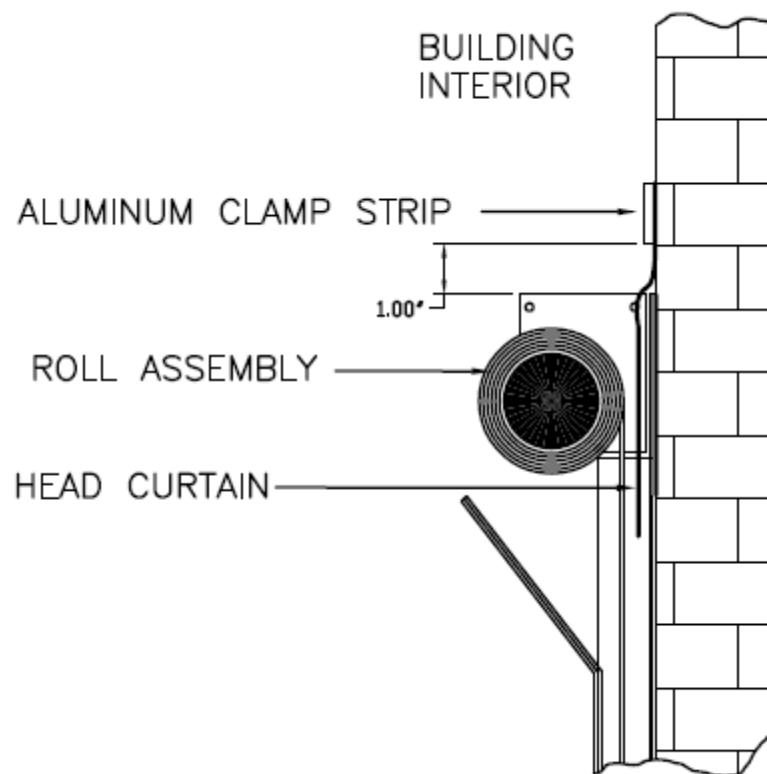

FIGURE 6
20. Mount the header curtain to the wall with the aluminum clamp strip provided. Make sure the curtain hangs down in the track against the back of the roll assembly. Mount the clamp strip with 10 x 3/4 screws provided in every other hole so that the top of the clamp strip is located 1" above the top of the roll assembly. The Gateway logo should face the building exterior. (See Fig. 6).